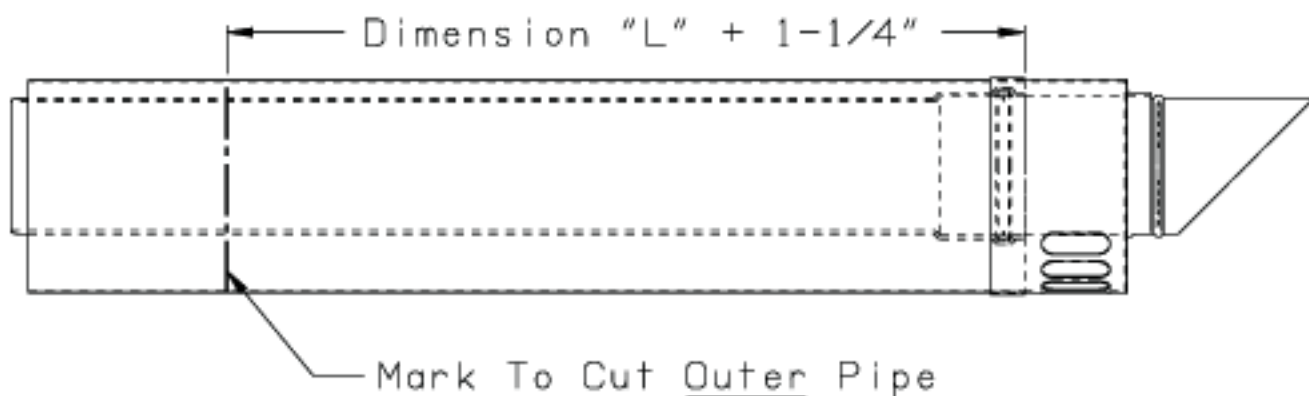

FIGURE 6.20b: CUTTING OUTER PIPE OF HORIZONTAL TERMINAL
- c) Add 1-1/4" to distance "L". Carefully mark this length on the pipe as shown in Figure 6.20b.